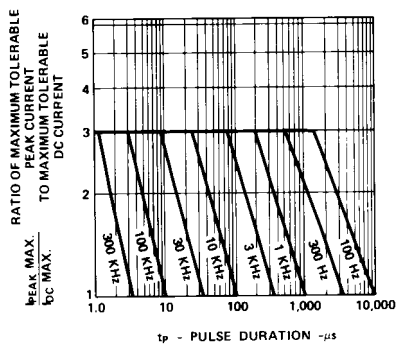

Figure 5. Maximum Tolerable Peak Current vs. Pulse Duration. (I_{DC} MAX as per MAX Ratings).
1. See Figure 5 (HER/Orange), 10 (Yellow), or 15 (Green/Emerald Green) to establish pulsed operating conditions.